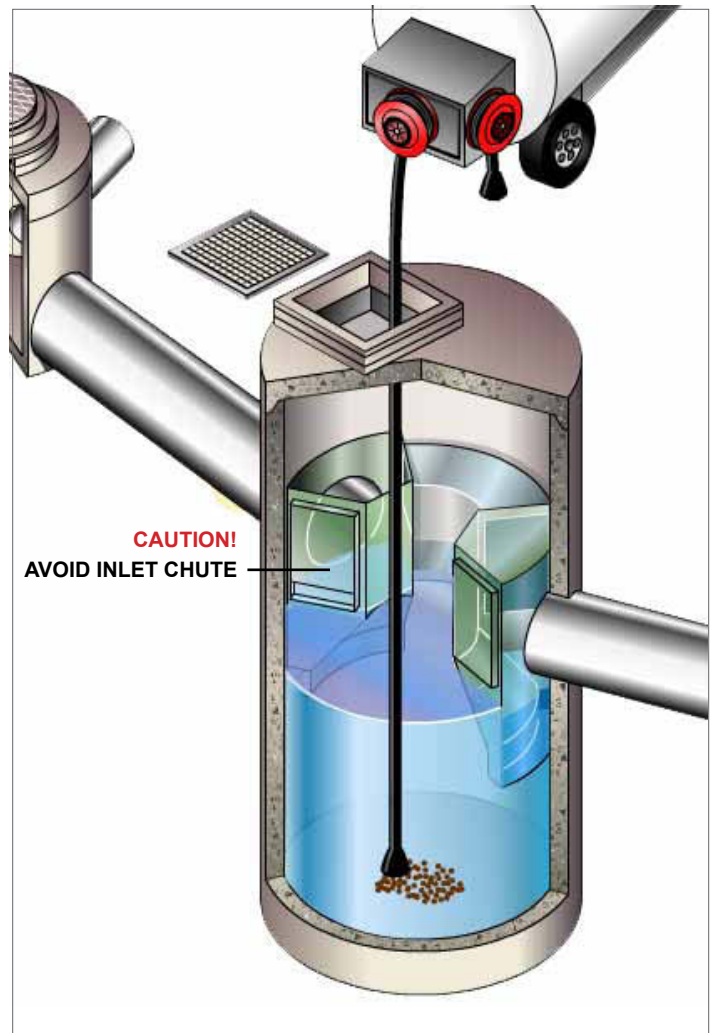

Fig.3 Sediment is removed with a vactor hose
6. Once all floatables have been removed, drop the vactor hose to the base of the sump. Vactor out the sediment and gross debris off the sump floor (Fig.3).